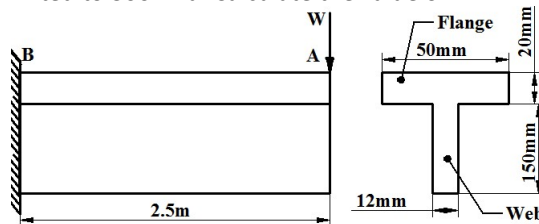

Figure 35
16. A beam of T section has a length of 2.5m and is subjected to a point load as shown in the **Figure 35**. Calculate compressive bending stress and plot the stress distribution across the cross section of the beam. The maximum tensile stress is limited to 300MPa. Calculate the value of W.